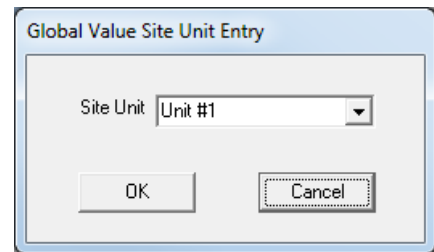

Figure B.14.1 GV_GetSiteUnit Prompt
- 2) Site Unit (optional): *Any text may be specified for the site unit. If this parameter is omitted the dialog shown in Figure B.14.1 is displayed to allow the analyst to select from a pre-defined list or manually type the unit name. If a Site Unit is specified then the dialog is not displayed.*